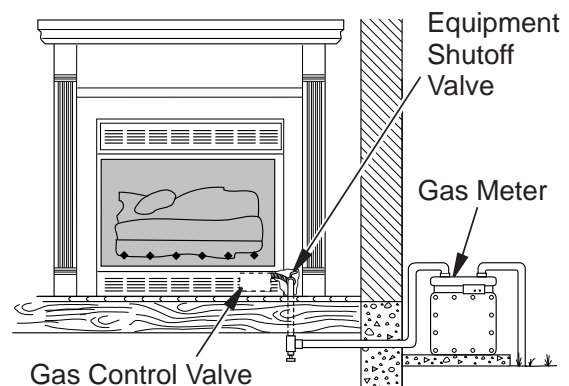

Figure 23 - Checking Gas Joints for Natural Gas
3. Check all joints from gas meter to equipment shutoff valve for natural gas or propane/LP supply to equipment shutoff valve for propane/LP (see *Figures 23 or 24*). Apply noncorrosive leak detection fluid to all joints. Bubbles forming show a leak.
4. Check all joints from equipment shutoff valve to gas control valve (see *Figures 23 or 24*). Apply noncorrosive leak detection fluid to all joints. Bubbles forming show a leak.